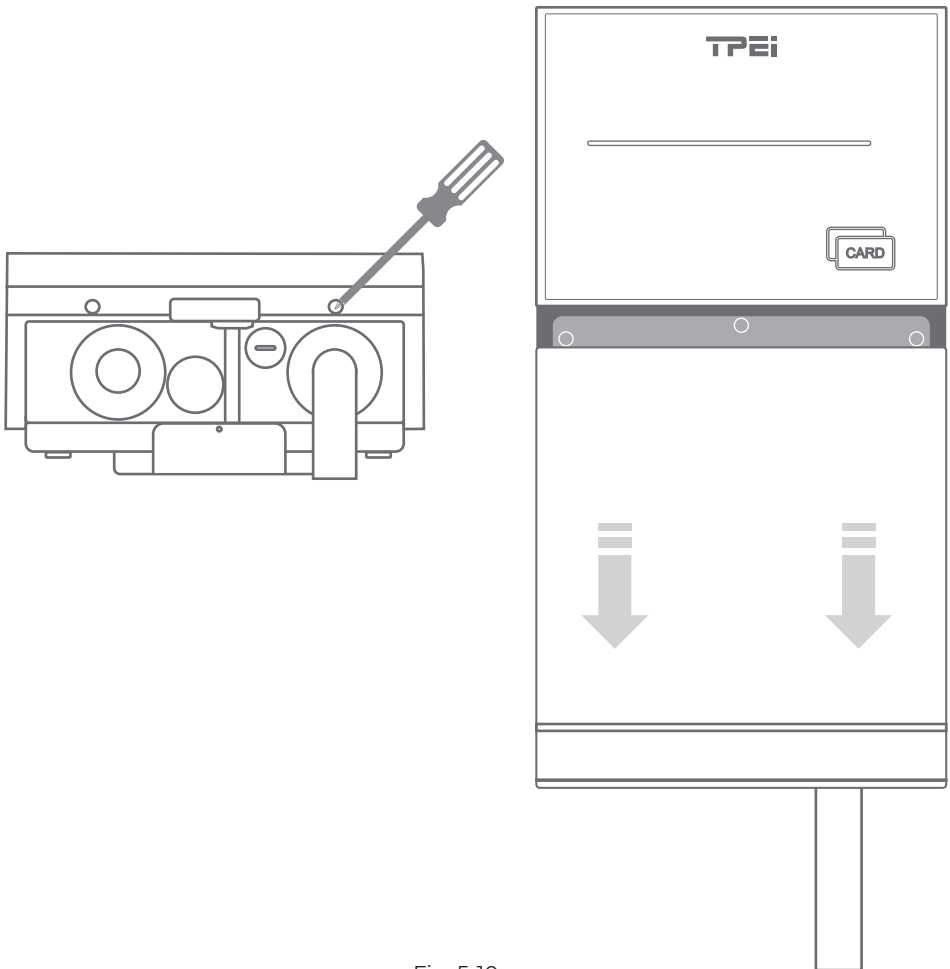

Fig. 5-10
1. Unscrew the two screws on the bottom of the front cover with a Phillips screwdriver, and slide the cover down to remove it. (See Fig. 5-10)